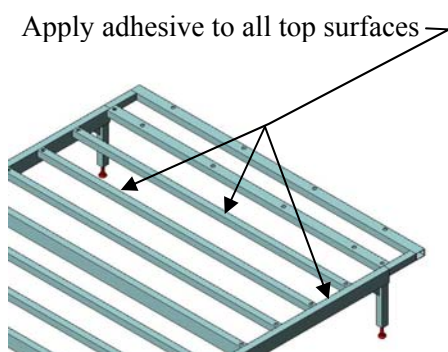

Figure 10
8. After making the final plumbing connections and floor adjustments, prepare to attach the Acrylic PVC floor panels to the open kennel floor frames. Lay the PVC floor panels on the raised floors to make sure they fit properly, and then remove. Apply a generous bead of adhesive (**J. Kennel Assembly Hardware**) around the top surface perimeter and cross members of the floor frames **(Figure 10)**.